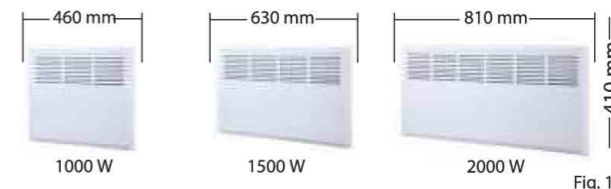

Fig. 1
**Dimensions of convectors depending on power (Fig. 1)**